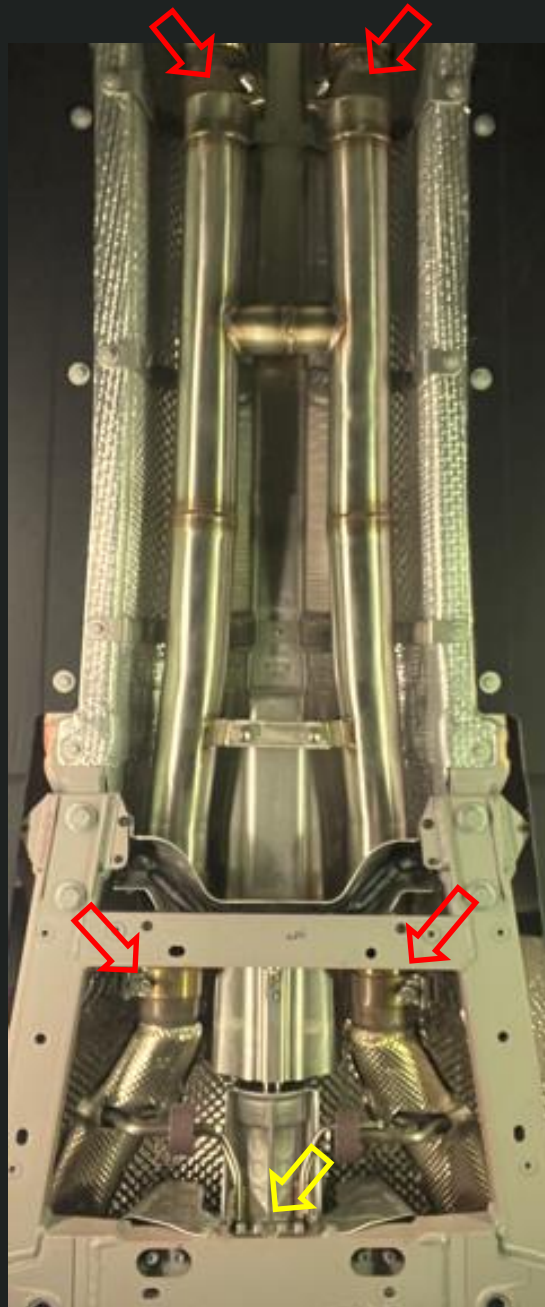

Figure 39
7. Install the mid pipe and rear pipe. Lightly tighten the clamps first, then adjust and fully secure them (Figure 39, red arrows).
8. Secure the rear pipe hanger bolts and tighten them (Figure 39, yellow arrows).